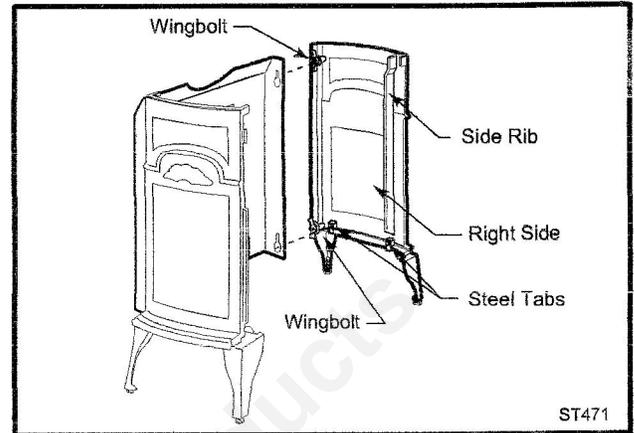
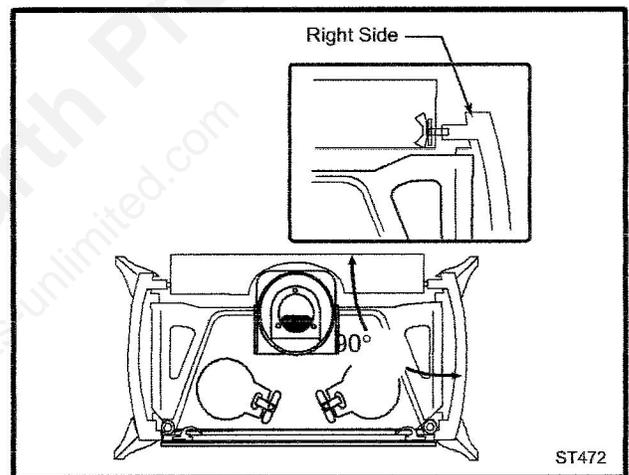
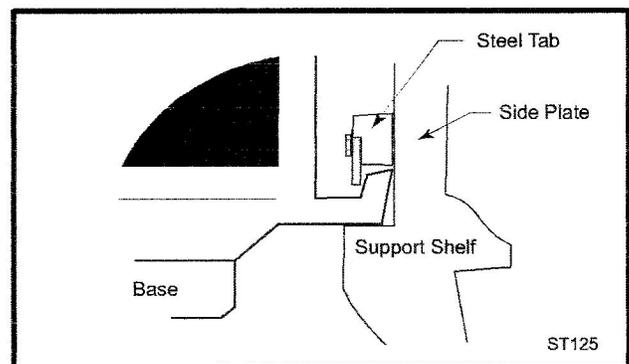

Fig. 16 Fasten right end to rear skirt.
Fig. 17 Align both sides with the rear skirt.
Fig. 18 Install firebox assembly.
2. Attach the Right Side Plate to the Rear Skirt. (Fig. 16) Move this assembly close to the stove's final position. Align the two side plates at right angles to the Back Panel as in Figure 17.
3. Lift the firebox assembly and slide it into the shell. The base of the firebox should rest on the side support shelves as in Figures 17 and 18. The side plates interlock with the firebox by use of a pair of steel tabs that engage with the ribs on the base of the firebox. (Fig. 18) Properly positioned, the firebox will be level and locked in place. If not, adjust the levelling screw in the foot of each leg as needed.